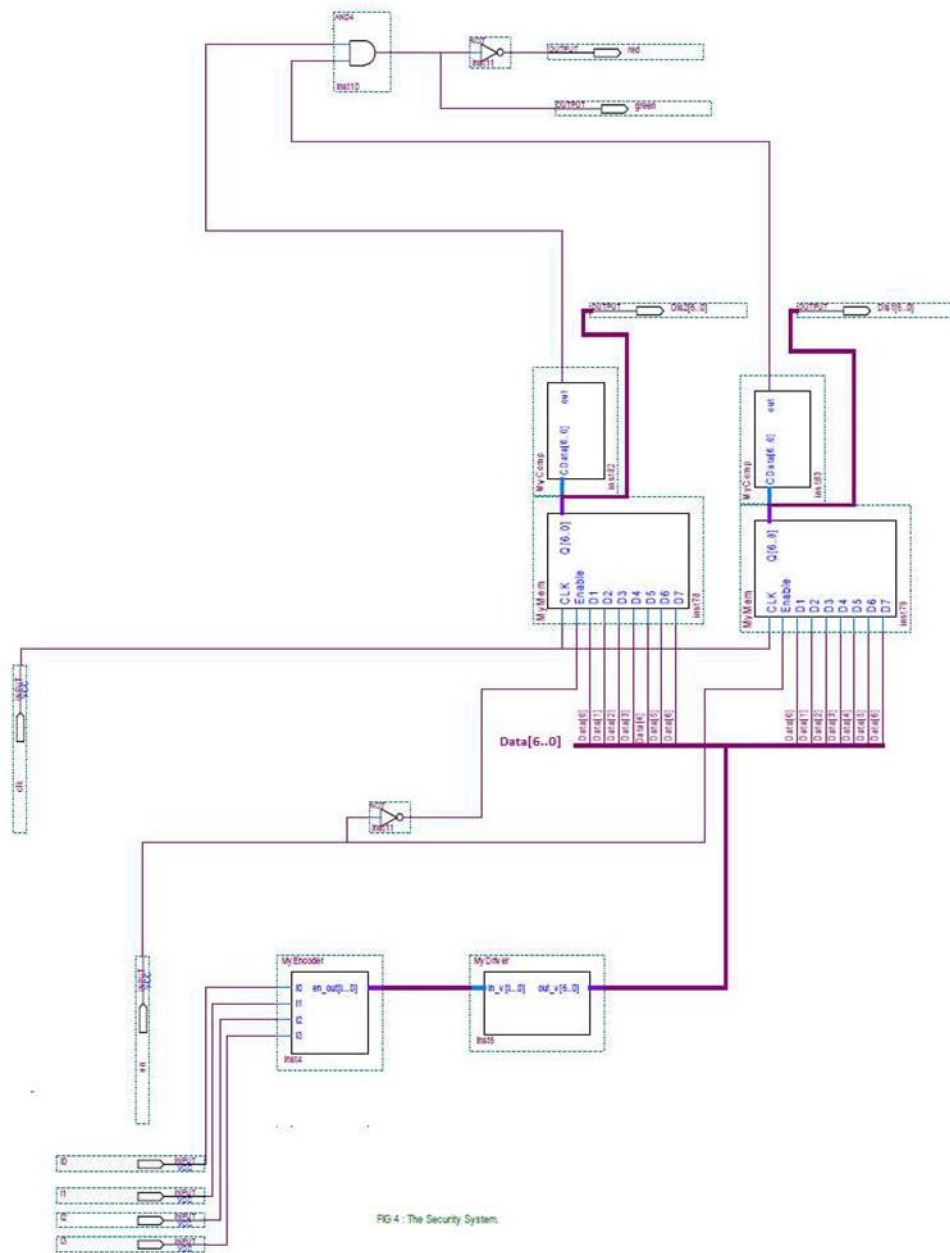

Figure 9.10: The Security System Final Block Diagram.
7. Build and design the security system using the components you built in the previous steps. The final block design should look like the one in Figure 9.10. Assign pins values to the security system design you just built and then download the system on the FPGA board.